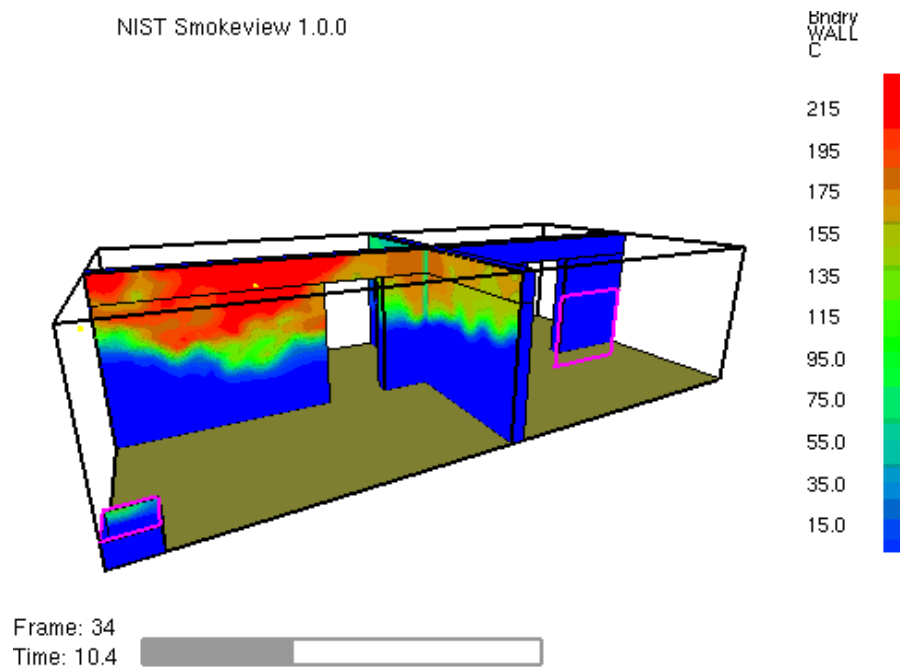

Figure 4: Boundary File Example
**Boundary Files** Boundary files contain simulation data recorded at interior or exterior boundary surfaces. Continuously shaded contours are drawn for quantities such as wall surface temperature, radiative flux *etc.* Figure 4 shows a snapshot of a boundary file animation where the surfaces are colored according to their temperature. Boundary files have file names with extension `.bf`.